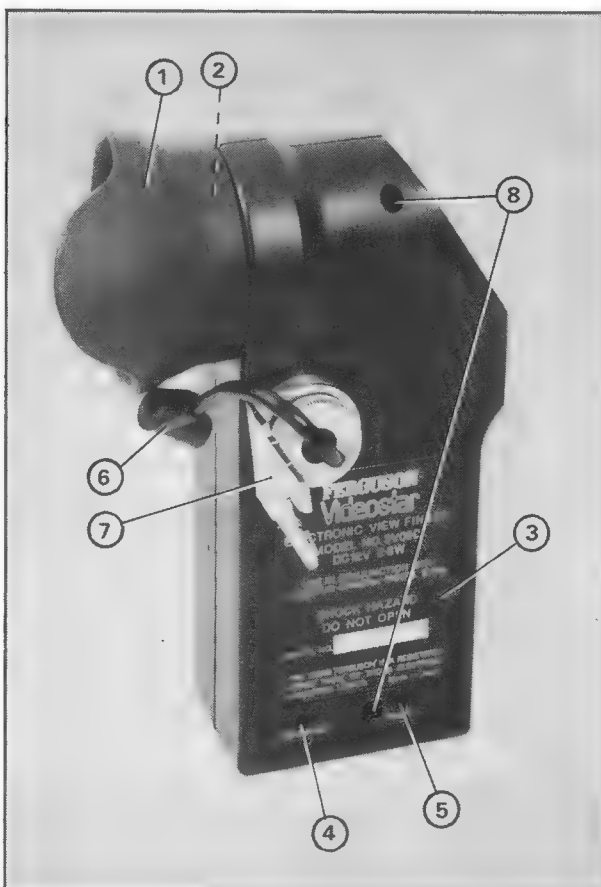

Fig 3.23 Electronic Viewfinder
- (1) Remove, by pulling, the visor ① in Figure 3.23
**NOTE** When refitting the visor, position the rim of the visor as shown in Figure 3.23
- (2) Remove the two screws ③ (Fig 3.23)
- (3) Unscrew the collar ② (Fig 3.23), by turning in the anticlockwise direction, and remove